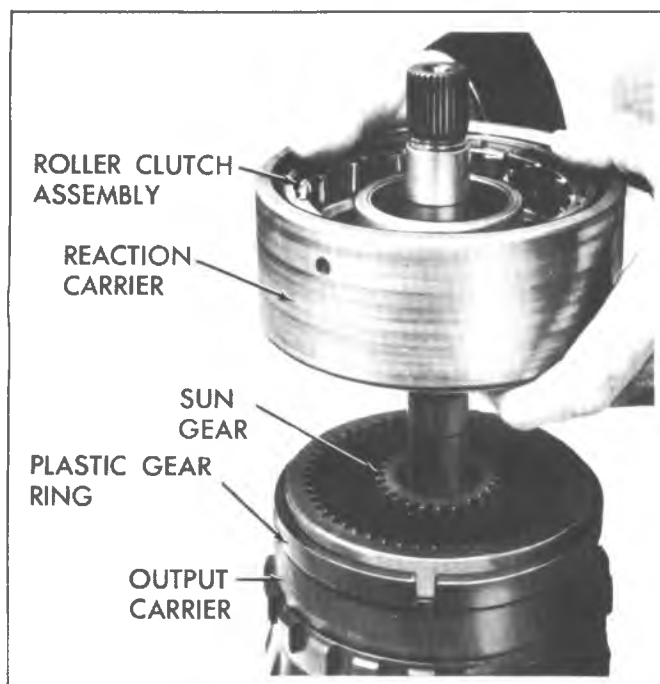

Fig. 7A-48C--Removing Reaction Carrier and Roller Clutch from Output Carrier
4. Remove reaction carrier and roller clutch assembly (Fig. 7A-48C). Lift roller clutch assembly out of carrier.